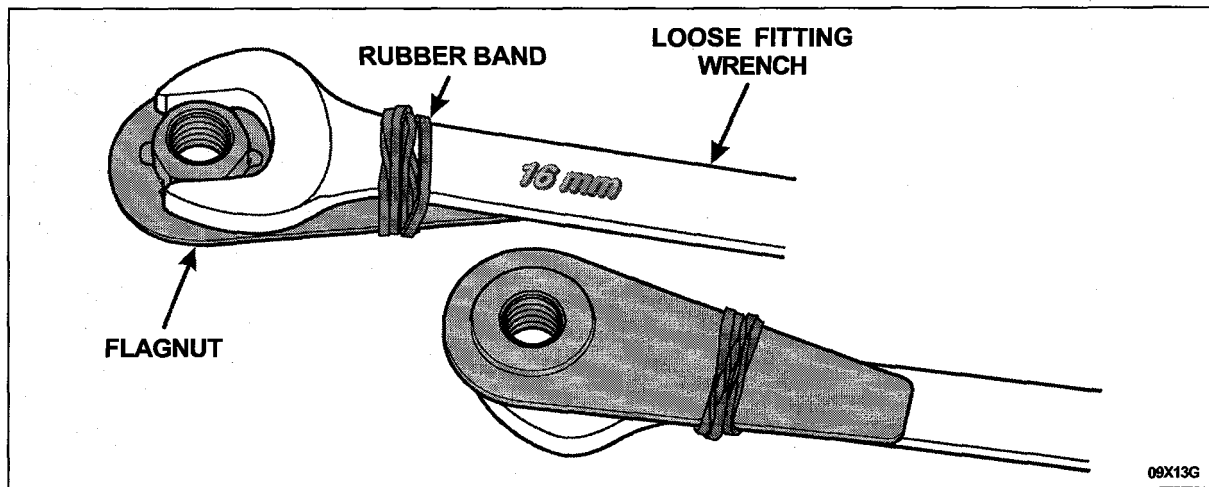

FIGURE 7
3. Place a *new* flagnut onto a loose fitting open-end wrench. Using a rubber band, secure the flagnut to the open-end wrench. See Figure 7.